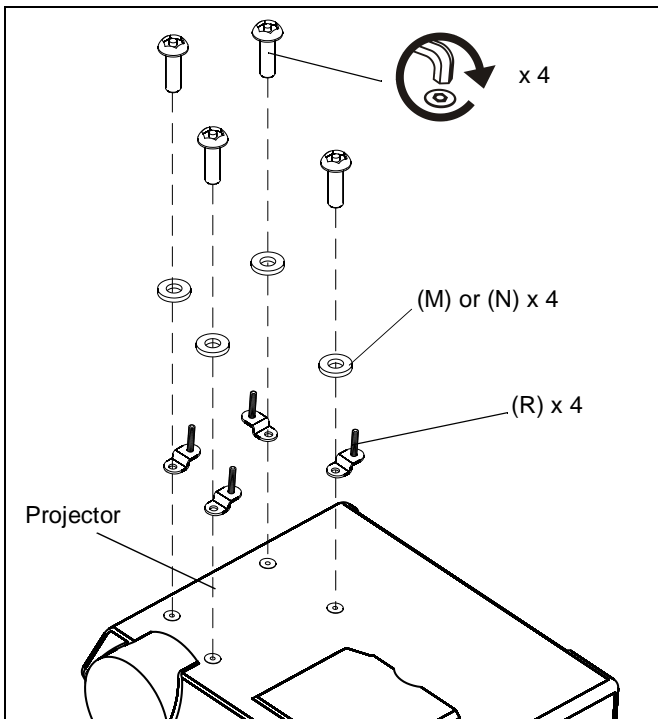

Figure 6
1. Attach the projector security legs (R) to the projector, using the correct size screws and washers for your specific projector. (See Figure 6)